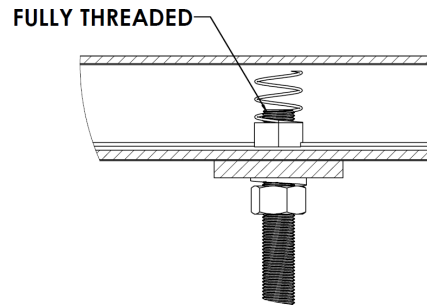

Figure 254: **Threaded Rod Fully Threaded into the Strut Channel Nut**
- Make sure the threaded rod is fully threaded into the strut channel nut (Figure 254).